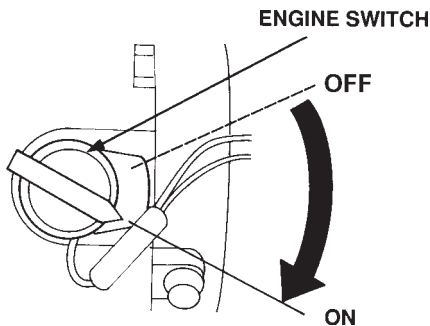

Figure 8. Engine ON/OFF Switch
- Turn the engine switch (Figure 8) to the ON position.